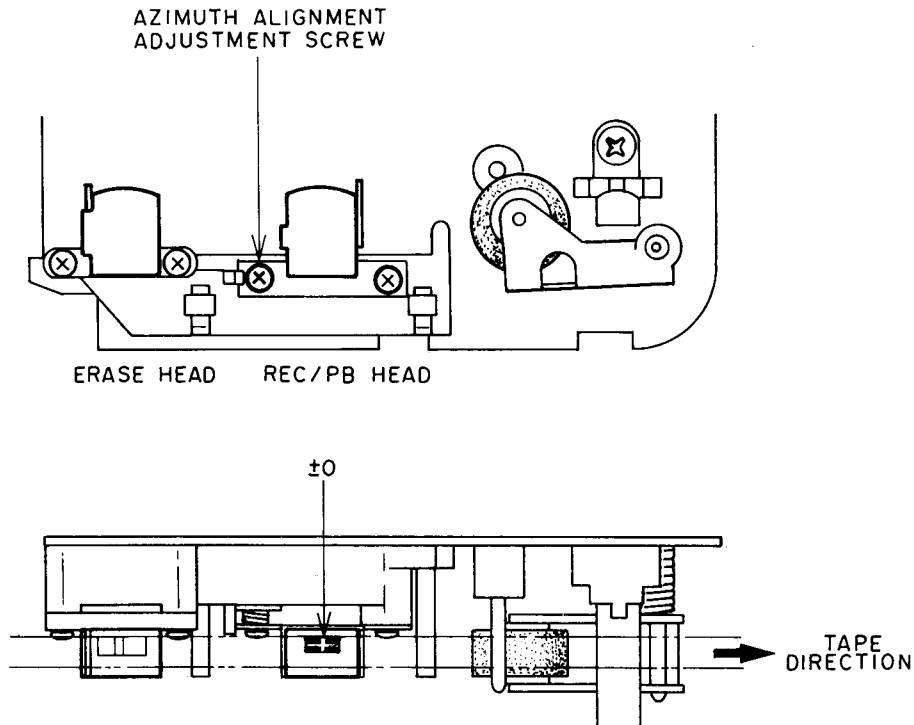

Fig. 5-2 Head Adjustment
3. RECORDING/PLAYBACK HEAD AZIMUTH ALIGNMENT (Refer to Fig. 5-2)
- a) Playback a 10 kHz pre-recorded cassette azimuth alignment test tape (AT-750778) and adjust screw shown in Fig. 5-2 to obtain maximum output on both channels.